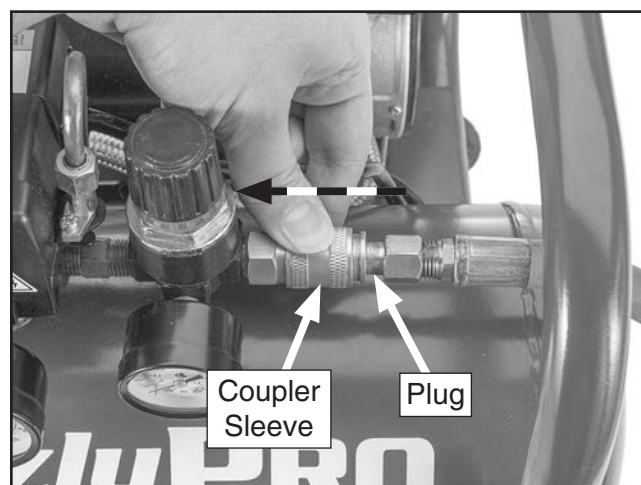

Figure 19. Example of pushing coupler sleeve to release plug.
3. While holding hose near plug, push coupler sleeve toward compressor to release hose plug (see **Figure 19**).